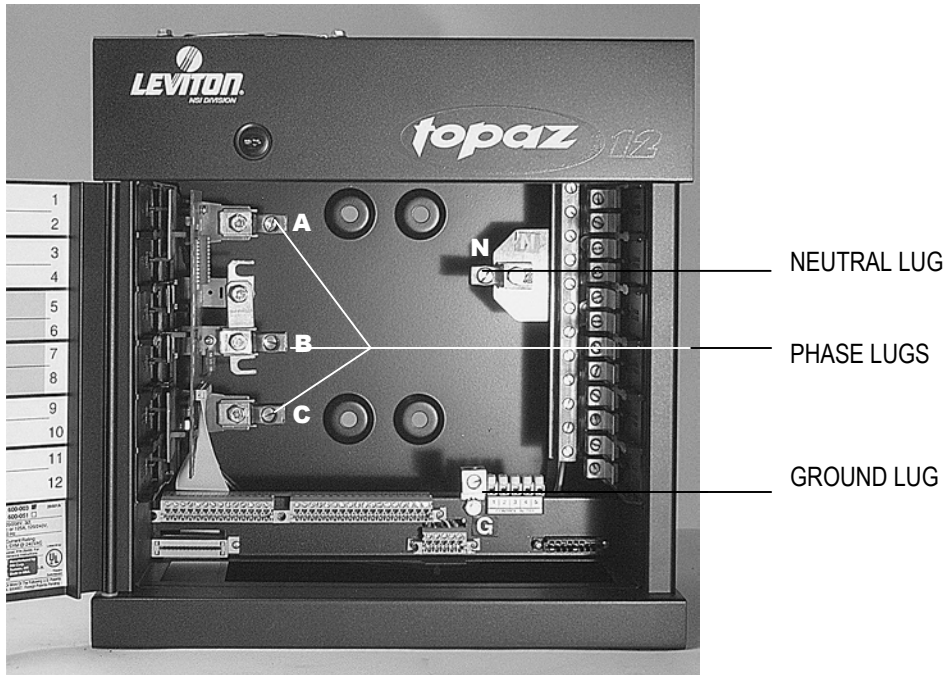

Figure 5 - Power Lug Location
- Connect the feeders at the phase, neutral and ground lugs and tighten according to Table I. See Figure 5 for lug locations. (If pack has been converted to single-phase, only lugs A & C will be terminated.)